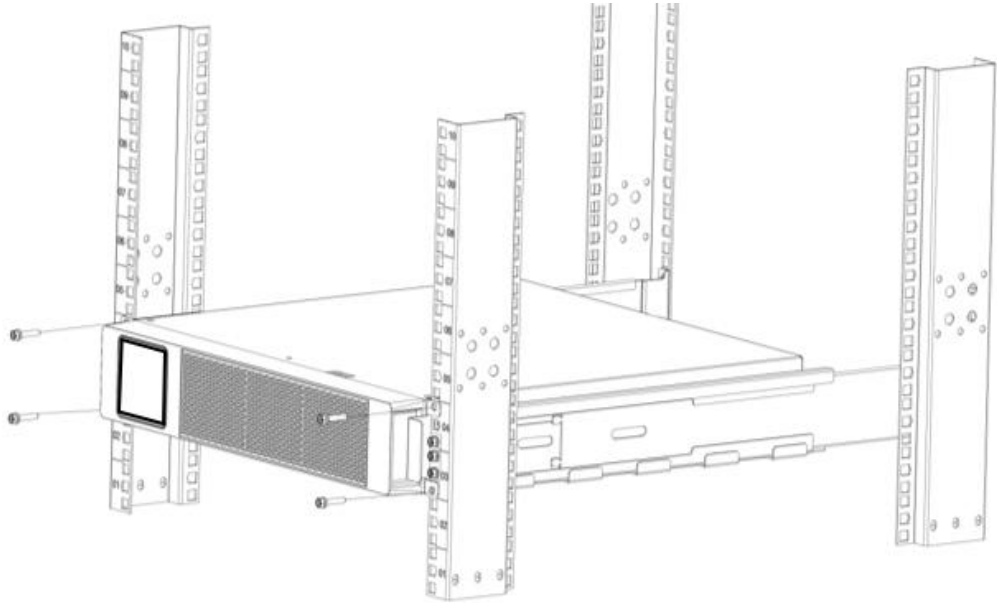

Figure 18: Secure the Mounting Brackets to the Rack
18. Align the mounting brackets with the screw holes on the rack and secure the EBP with the supplied 4x Phillips Hex Head M5 screws (see Figure 18).